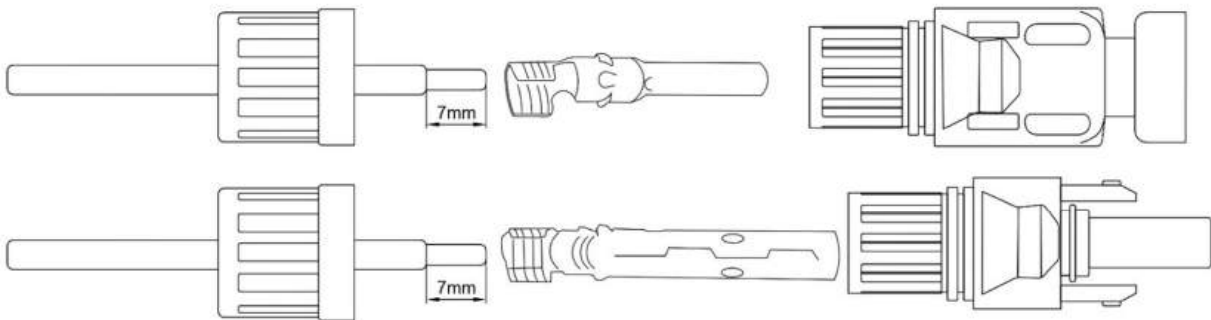

Figure 2.12 Connector cover nut
- 1.Peel off the DC line about 7mm and remove the connector cover nut see figure 2.12 .